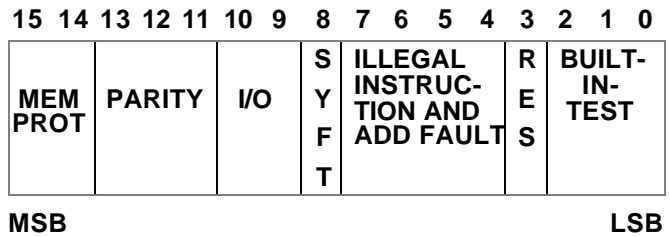

Figure 15. The Fault Register (FT)
The UT1750AR uses the Fault Register (FT) (figure 15) to indicate the occurrence of a machine-error fault. A machine-error fault cannot be disabled. The UT1750AR uses the logical OR combination of the 16 FT bits to generate the Machine Error interrupt, bit 14 of the PI. Any bits in the FT the UT1750AR does not use are set to a logic zero. The UT1750AR reads, loads, and clears the FT with RISC I/O instructions. The configuration of the FT is shown in figure 15.